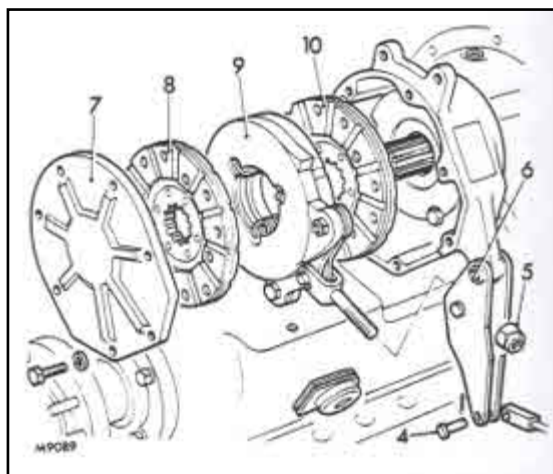

Fig 1. Exploded view of brake assembly
The main brake components are shown in Fig 1. The operation of the brake is very simple, when the threaded rod on the actuator (9) is pulled, the actuator expands forcing the two rotating friction discs (8 & 10) against the brake housing and outer cover (7). This action slows the tractor! When the friction discs, end plate and housing wear then braking action is reduced. Wear on the pinion splines and various abutment surfaces can allow the brakes to lock on! In severe cases excessive wear will allow the balls in the actuator to reach the end of their travel, again locking the brakes on. When this happens it may be possible to free the brake by reversing the tractor!